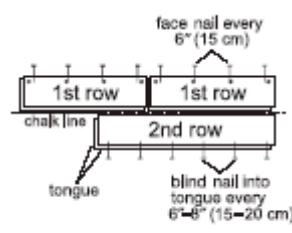

Figure 8
- Use a pneumatic finish nailer to face-nail the groove side 1/2" (13 mm) from the edge at 6" (15 cm) intervals and 1"-3" (2.5-7.6 cm) from each end. Then, blind nail using a finishing gun held at a 45° angle. Nail down through the nailing "pocket" on the top of the tongue every 6"-8" (15-20 cm) (Figure 8).
- If using finish nails, pre-drill the nail holes with a 1/32" (.8 mm) bit approximately 1/2" (13 mm) from the back (groove) edge, 1"-3" (2.5-7.6 cm) from each end, and at 6" (15 cm) intervals. Pre-drill at the same intervals at a 45° angle down through the nailing "pocket" on top of the tongue (Figure 8). Face-nail the groove side where pre-drilled. When complete blind-nail at a 45° angle through the tongue of the first row. Fasten using 6 or 8d finish nails. Countersink nails to ensure flush engagement of groove. Avoid bruising the hardwood by using a nail set to countersink the nails.